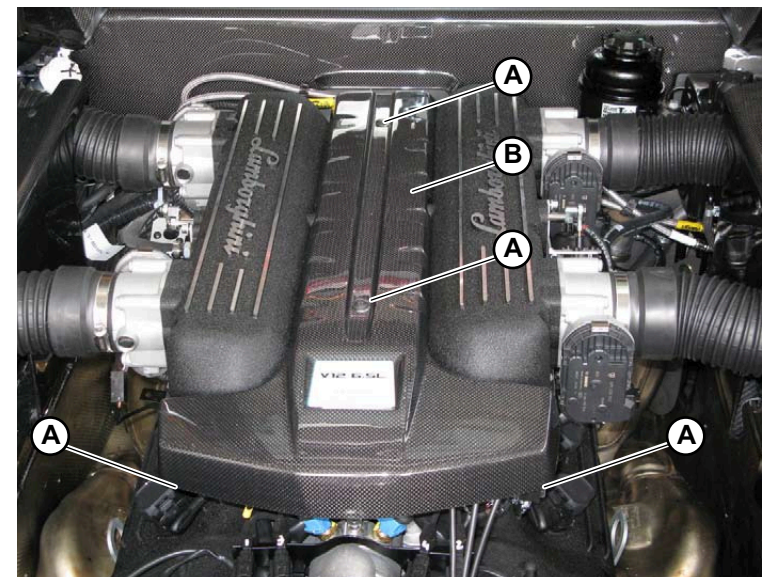

Fig.8
1. Unscrew the 4 screws (A-Fig.8) securing the rear engine safety cover (B-Fig.8).